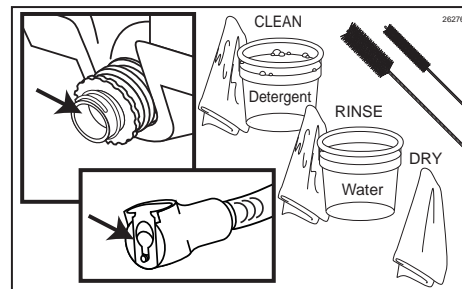

Figure 47
10. Clean the exposed surfaces of the Syrup Bag Connector and bag fitment with detergent water, single service towel and brush if necessary. Then rinse and dry the Connector and fitment using clean water and single service towels. (See Figure 47.)